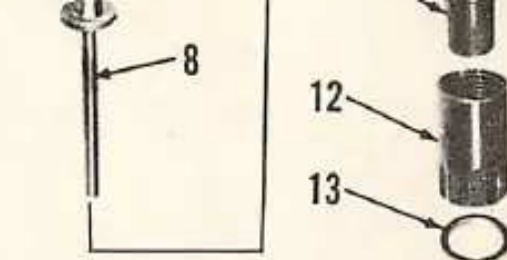

Fig. 084—Exploded view of C.A.V. throttling pintle type injector used on Series 1600 and 1650 diesel engines. Opening pressure is adjusted by screw (4).
If a straight, solid core of oil ejects from nozzle tip without undue pressure on tester handle, open valve to tester gage and remove cap nut (1—Fig. 084). Slowly depress the tester handle and observe the pressure at which the nozzle valve opens. If opening pressure is not approximately 1925 psi (new spring) or 1750 psi (used spring), loosen locknut (3) and turn adjusting screw (4) until opening pressure is 1925 psi when testing a new injector or an injector assembly in which a new spring has been installed, or 1750 psi when testing an injector with used spring.
Disassemble only one injector at a time or provide a way to keep parts of one injector assembly together. To disassemble injector, proceed as follows: Clamp the squared upper part of injector holder body in a soft jawed vise, tightening vise only enough to keep injector from slipping, or use a holder fixture. Remove cap nut (1—Fig. 084), loosen lock nut (3) and back out the adjusting screw (4) until all tension is removed from spring. Then, remove the nozzle holder nut (12). Withdraw the nozzle valve (10) from nozzle body (11) with the stem end, or if valve is stuck, use the special extractor as shown in Fig. 086. NEVER loosen valve by tapping on exposed pintle end of valve. Remove spring retainer cap nut (5), spring seat (6), spring (7) and the seat and
Turn the adjusting screw (4—Fig. 084) inward until nozzle opening pressure is set at 2300 psi. Operate the tester handle to bring gage pressure to just under the 2300 psi opening pressure, then release tester handle and observe the length of time required for gage needle to drop from 2200 psi to 1500 psi. The time should not be less than 6 seconds. A faster drop would indicate wear or scoring between piston surface of needle (10) and nozzle (11), or leakage due to improper sealing of pressure face surfaces of nozzle and holder body (9). **NOTE:** Leakage at tester connections or at tester check valve will show up as fast leak back in this test. If all injectors tested fail to pass the back leakage test, the tester, rather than the injectors, should be suspected.
As the parts are cleaned, immerse them in clean diesel fuel in a compartmented pan. Insert the nozzle body while holding both parts below the fuel level in pan and assemble to nozzle holder while wet. Use the centering sleeve (Oliver tool No. STA-115-B or Bacharach tool No. 66-0064) when reassembling as shown in Fig. 085 and tighten the holder nut to a torque of approximately 45-50 Ft.-Lbs. Install spindle and seat (8—Fig. 084), spring (7), seat (6) and cap nut (5) and tighten the cap nut to a torque of 50-60 Ft.-Lbs. Install screw (4) and lock nut (3), adjusting the screw to obtain proper nozzle open-